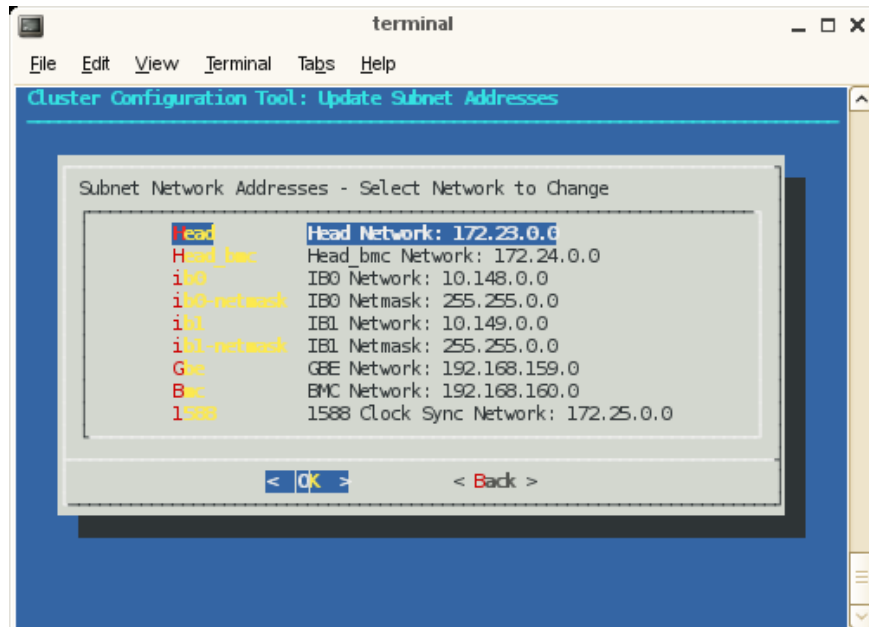

Figure 2-20 Update Subnet Addresses Screen
11. The **Update Subnet Addresses** screen appears, as shown in Figure 2-20 on page 56.